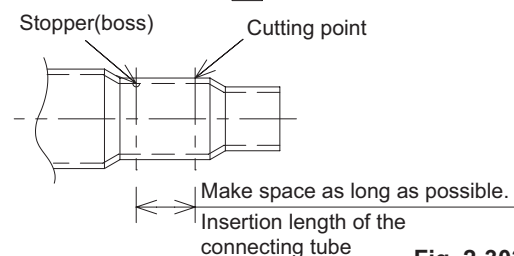

Fig. 2-303
- Cut off as far away from stopper as possible. (Fig. 2-303)